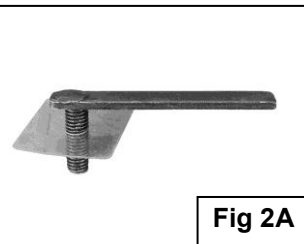

Fig 2A
2. Select (2) 10mm Bolt Plates and (2) 10mm Plastic Retainers, **(Figure 2A)**. Partially thread the Retainers onto the Bolt Plates. **NOTE:** The Plastic Retainer is designed to help hold the Bolt Plate in place during Bracket installation.
5. Locate the round hole in the back of the outer frame channel directly behind the previously installed Bolt Plates, **(Figure 5)**. Remove the rubber plug. Select (1) 10mm Bolt Plate and (1) 10mm Plastic Retainer, **(Figure 2A)**. Partially thread the Retainer onto the Bolt Plate. Insert the Bolt Plate into the hole and tighten the Retainer as previously described.